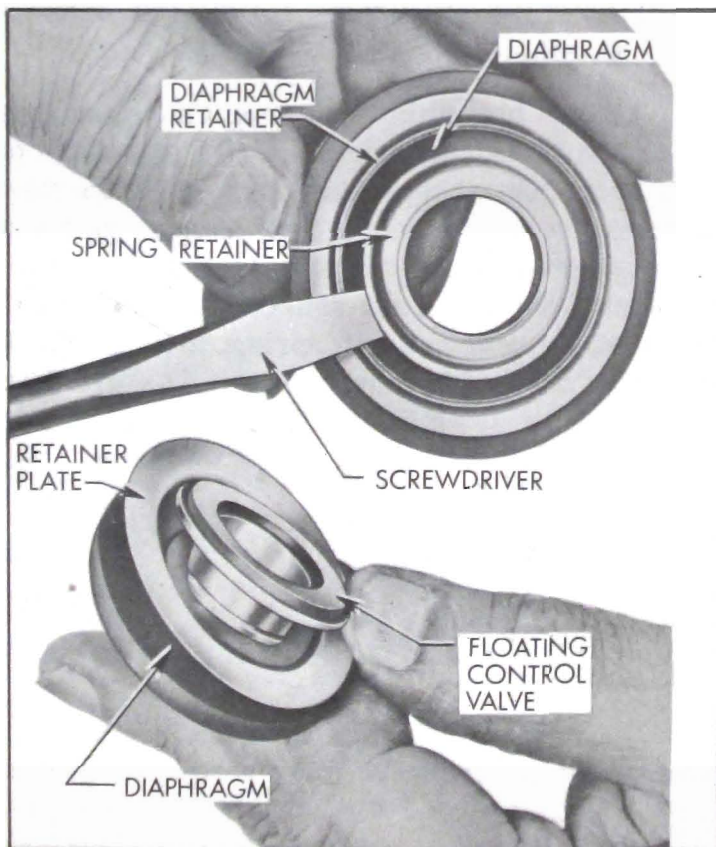
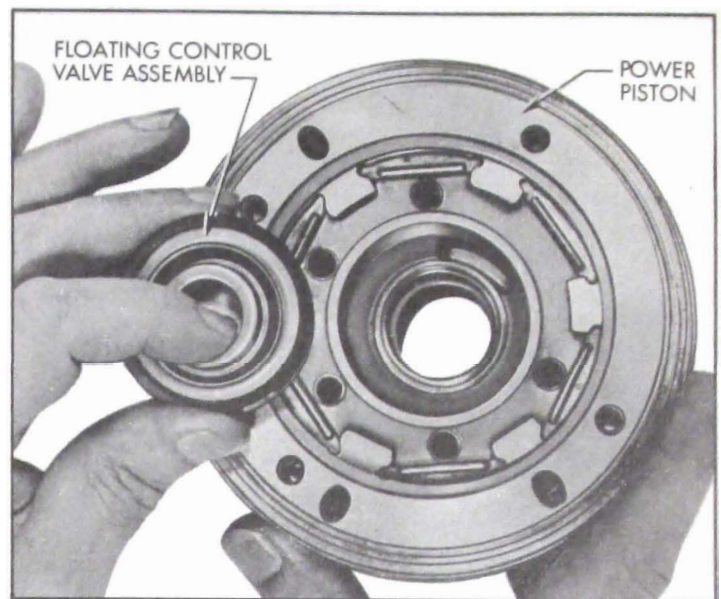

Figure 9-19—Floating Control Valve and Diaphragm Assembly
Figure 9-22—Installing Floating Control Valve and Diaphragm Assembly
14. Remove floating control valve assembly from power piston by pushing out from push rod side. Disassemble as follows: With small screwdriver, pry spring retainer off diaphragm, then push floating control valve through diaphragm. See figure 9-19. This frees retainer plate in the process. Pull diaphragm from diaphragm retainer. This completes disassembly of the power piston assembly.
7. To assemble floating valve assembly, press flat side of diaphragm retainer (smaller retainer) into diaphragm. See figure 9-19. Hold flat side of retainer plate (larger retainer) against flat side of diaphragm while pressing floating control valve through center hole of diaphragm. Use thumbs to stretch diaphragm over hub of floating control valve, then press spring retainer over valve hub and diaphragm lip. Lubricate O.D. of floating valve with Dynaflow oil and press into place in power piston with rubber face of floating control valve facing in. See figure 9-22.